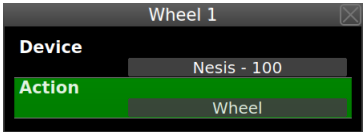

Figure 76: Joyu wheel movement was assigned to Nesis with serial number 100. Action in this case is knob rotate action, which equals to wheel.
4. Rotate a wheel. Same window appears, but with less options. Figure 76 illustrates an example.